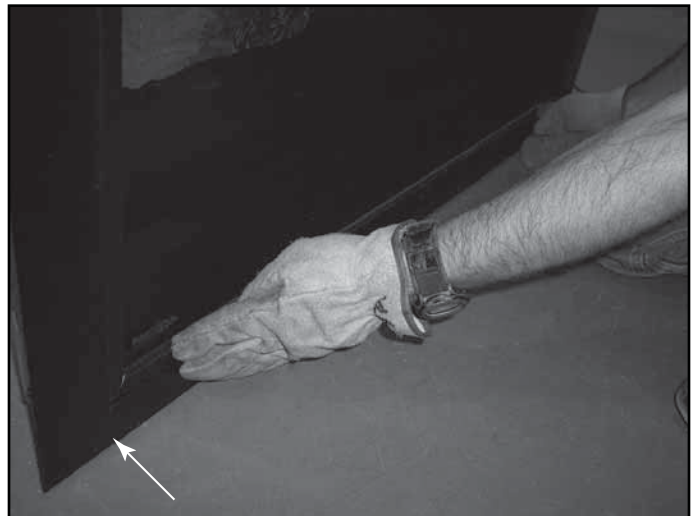

Figure 14.14 Press on Bottom of Screen
- Press in on the bottom of the screen until the magnetic touch latches close. See Figure 14.14.